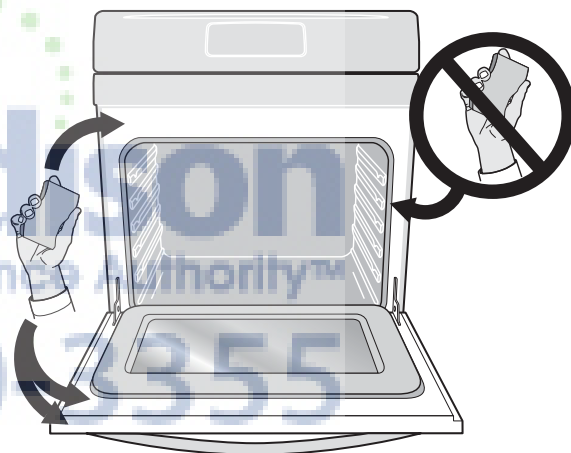

Figure 14: Clean around the oven door gasket
- Do not clean the oven door gasket (Figure 14). The woven material of the oven door gasket is essential for a good seal. Care should be taken not to rub, damage, or remove the gasket.
- Clean any soil from the oven frame, the door liner outside the oven door gasket, and the small area at the front center of the oven bottom. These areas heat sufficiently to burn soil on. Clean with soap and water. These areas are shown in white (Figure 14).